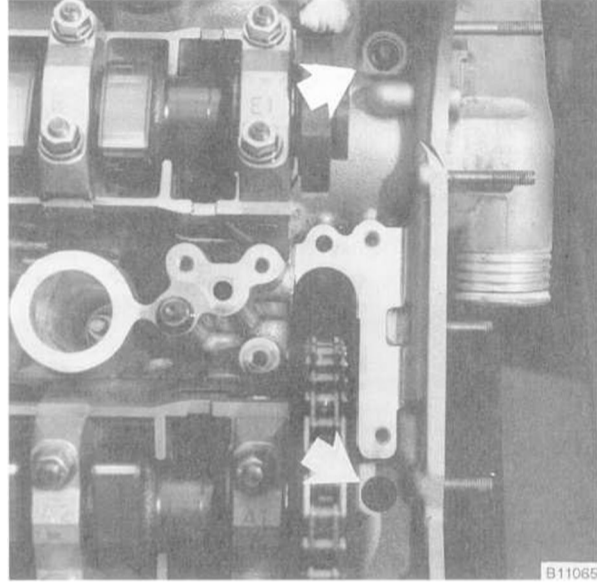

Fig. 25. Cylinder head-to-timing chain cover mounting bolts (arrows)
36. Using a Torx E8 socket, remove the two mounting bolts holding the cylinder head to the lower timing chain cover. See Fig. 25.